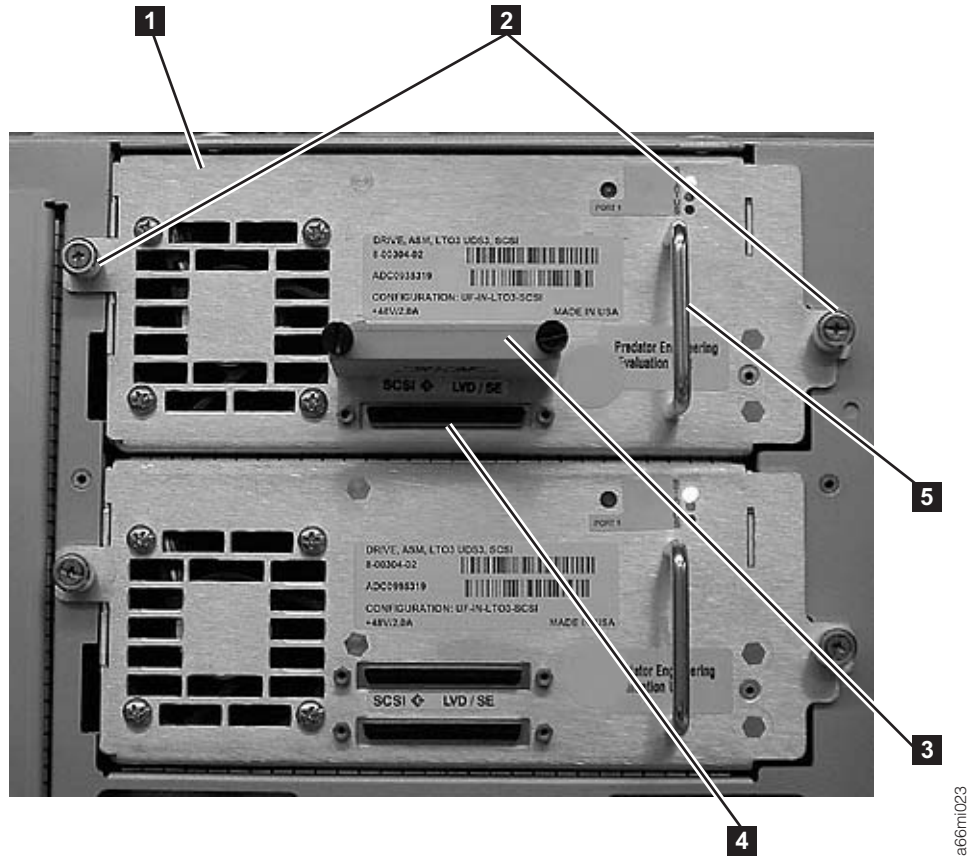

Figure 3-5. SCSI Drive Sled (detail)
1. Loosen the two thumb screws ( **2** in Figure 3-5) that hold the drive sled in place by turning them counterclockwise.
2. To remove the drive sled, grasp the handle ( **5** in Figure 3-5) and slowly pull it toward you, while supporting the drive sled from underneath.